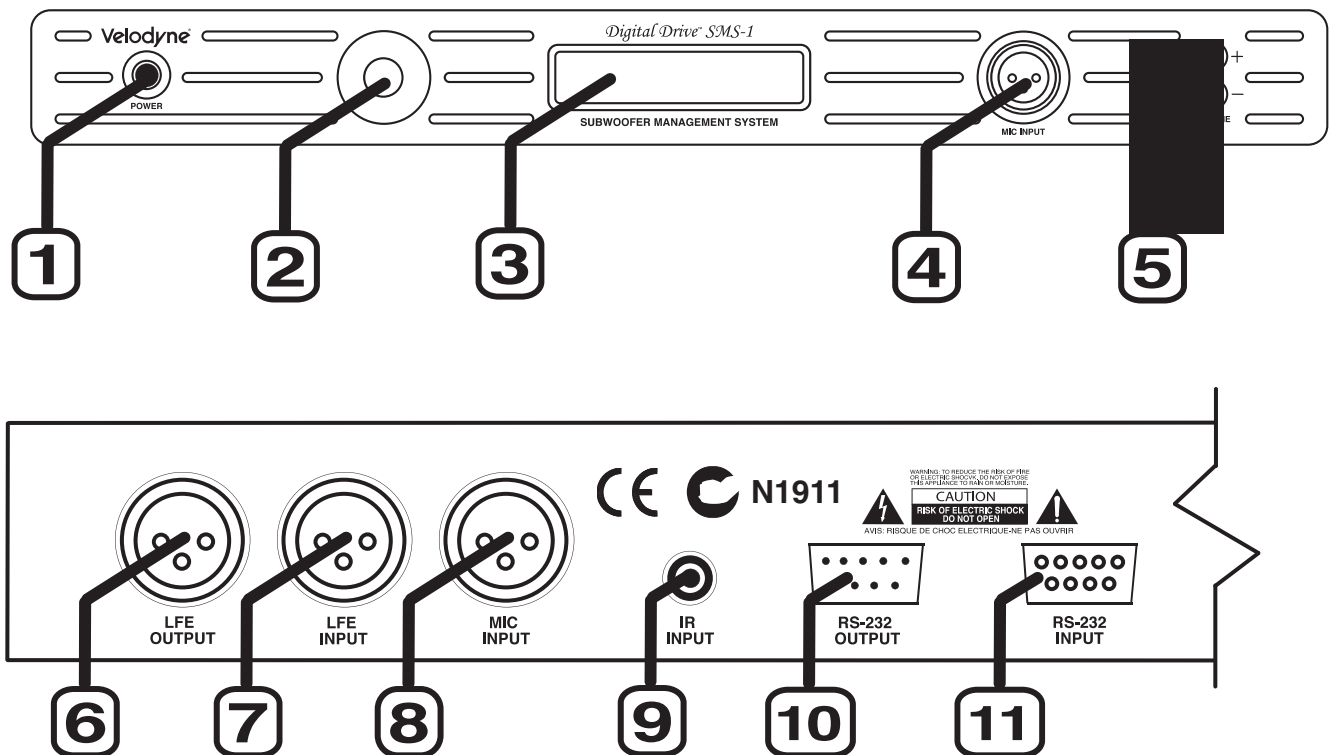

Figure 2: Digital Drive Front and Rear Panel Connections
- c. INPUT, LEFT and RIGHT (location 17 on Figure 2)– Make a connection between these inputs and the stereo outputs of your receiver or processor; OR
- d. SPEAKER-LEVEL INPUT (location 18 on Figure 2) - Make a connection between these inputs and the left and right speaker connections on your receiver or processor. Make this connection by inserting speaker wire into the correct terminals of the terminal block.
7. Insert the XLR microphone cable's 3-pin male plug into the MIC INPUT jack (location 7 on Figure 2) on the front or back panel of the SMS-1.